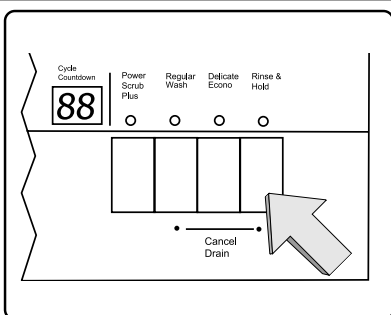

Figure 32/Ilus. 32
- 1) Press and hold the right-most of the two buttons labelled "Cancel Drain", as shown in Figure 32, then press and hold the "On/Off" button. The LED display will show a number between 0 and 6.